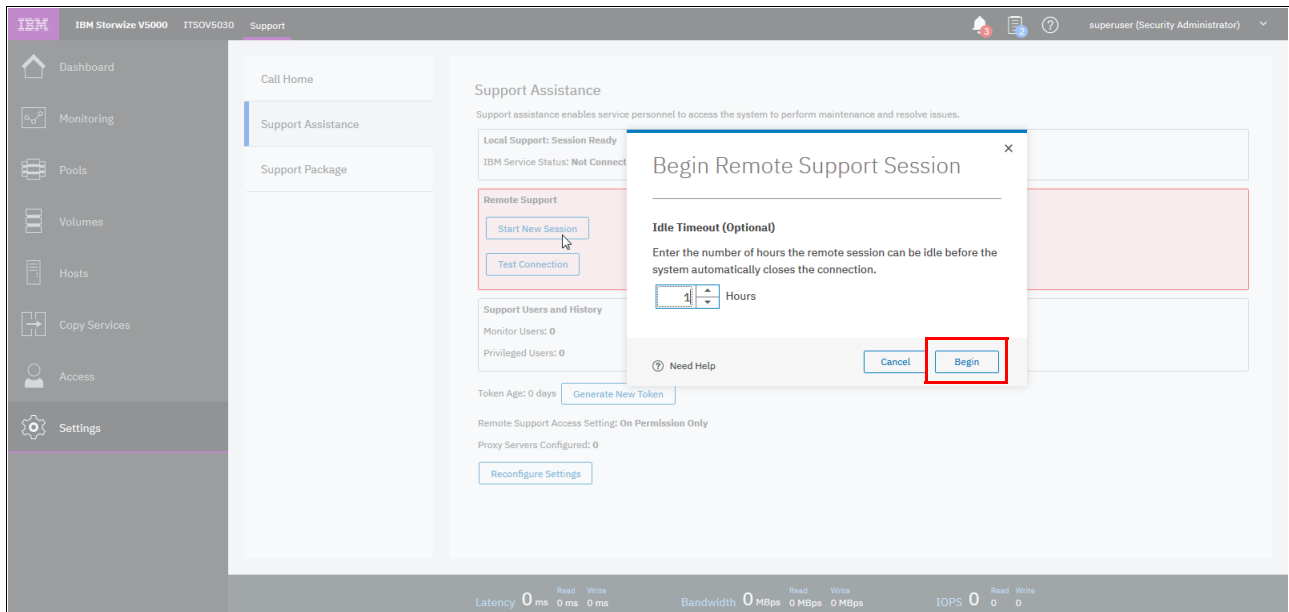

Figure 12-106 Set Idle time before the line will be disconnected
4. Under **Support assistance** → **Start new Session** (marked) you can select the time that the Remote support Session can be idle before the system disconnects the line (see Figure 12-106).